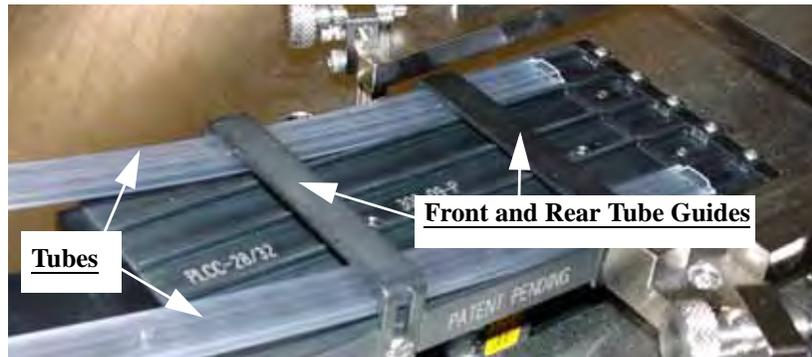

Figure 2-9—Adjust front and rear tube guides
- 4a) Insert empty tubes in the first and last lanes of the input tube loader platform. See *Figure 2-9*.
- 4b) Adjust the rear tube guide and the front tube guide so the tubes are held on the input tube platform snugly but are not compressed out of shape. See *Figure 2-9*.